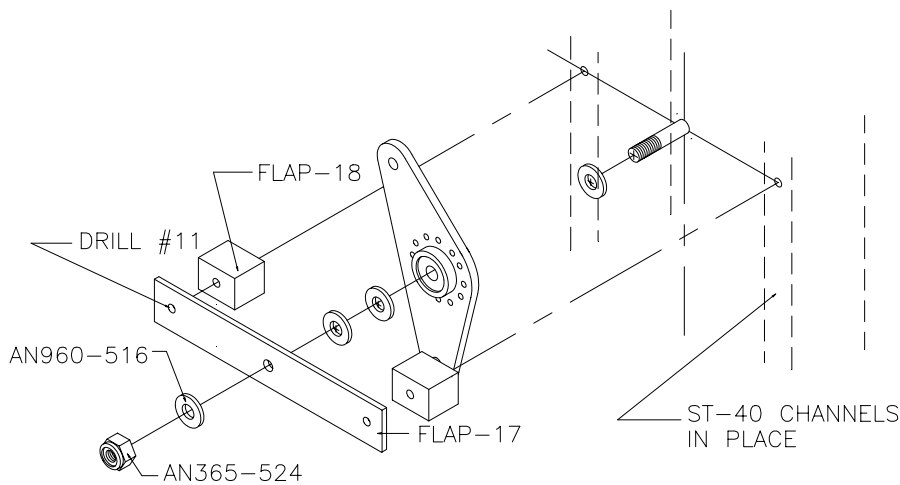

Figure 15.14.3
5) Assemble a Bellcrank and Horn Retainer (FLAP-17) on the FUS-27. Position the Horn Retainer 90° to the vertical line. Drill through the FUS-27 with a #11 drill using the Retainer as a guide. **NOTE:** You will have to fabricate spacers out of FLAP-18 material. Figure 15.14.3
**NOTE:** Fabricate two stiffeners for each side of the aircraft to stiffen the FUS-27 rib. Run the channels from the top of the roof to the top of the Door, and add clips at each end to tie them in to the roof and fuselage rib channel. See figure 15.14.3 for locations. You may want to refer to step 15.15.16 and add the 9/16" holes for the Teleflex in the stiffeners at this point.